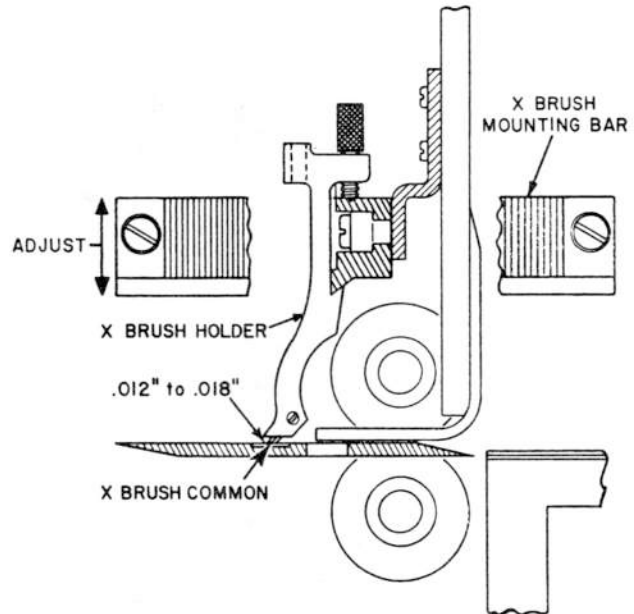

Figure 21. X Brush Holder Adjustment
2. Position the X brush mounting bar vertically for a clearance of .012" to .018" between the X brush holder and the X brush common. (The mounting screw holes have some clearance and if necessary may be enlarged.) (Fig. 21)